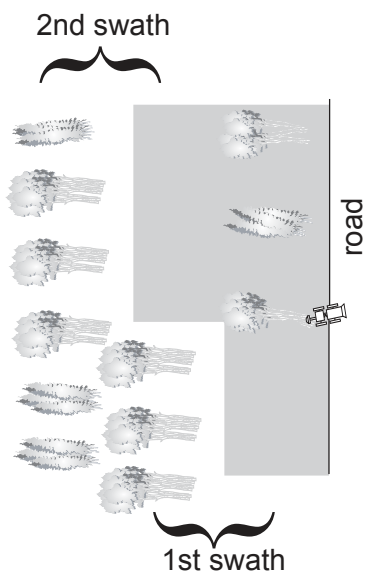

Figure 13c. Make each skid swath wide to promote soil freezing prior to next swath.
- Skid bunches in a wide swath fashion to allow sufficient time for frost penetration prior to skidding the next swath (**Figure 13c**).